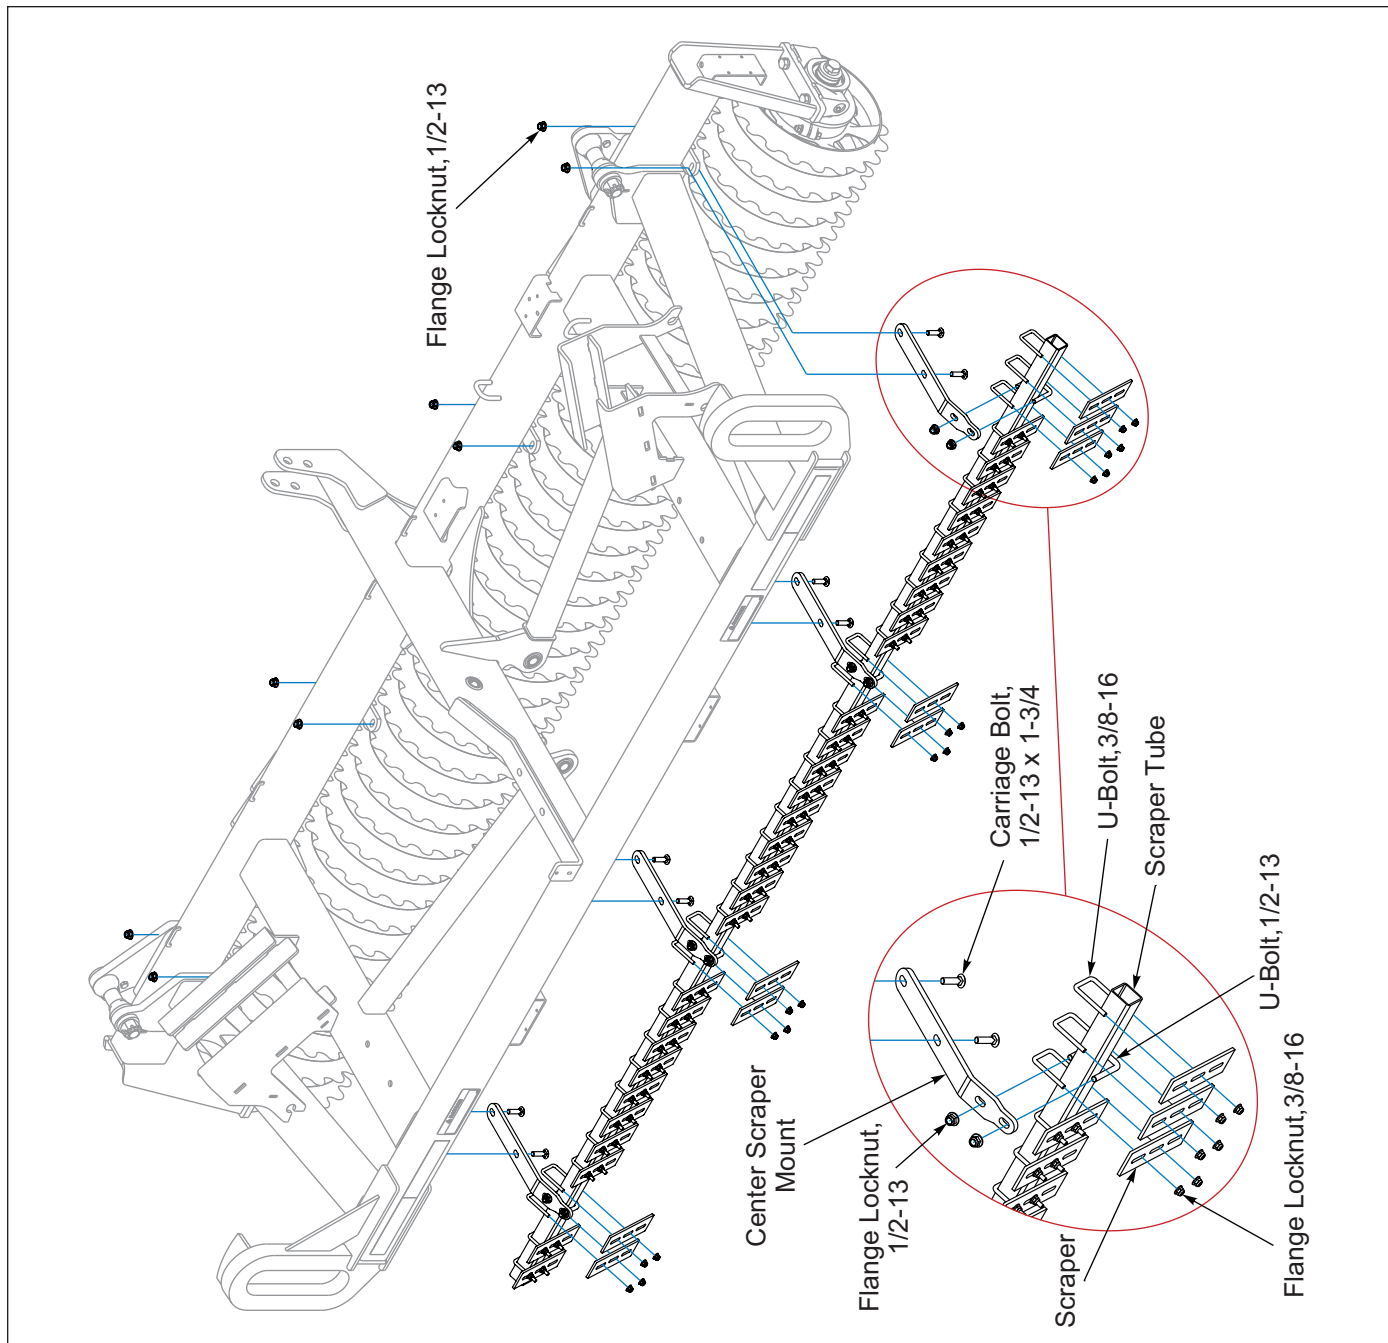

Figure 2-23: Center Roller Scrapers - Optional
1. With Rollers on level ground. Install center Scraper Mounts to Center Frame Mounts with 1/2-13 x 1-3/4 Carriage Bolts and Flanged Locknuts. Do not tighten. **See Figure 2-23.**